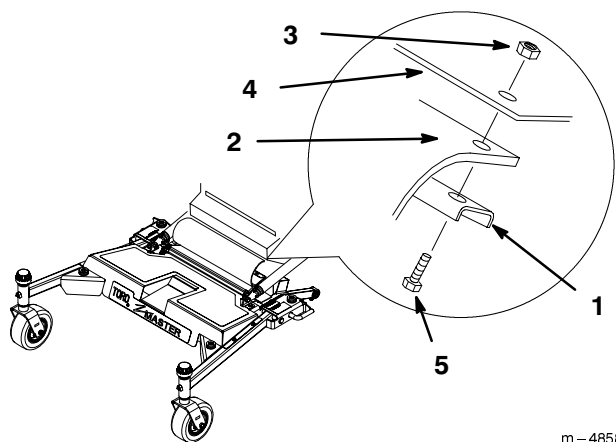

Figure 38
16. Install the rubber guard with bar, nuts and bolts under the motion control levers. (Fig. 38).